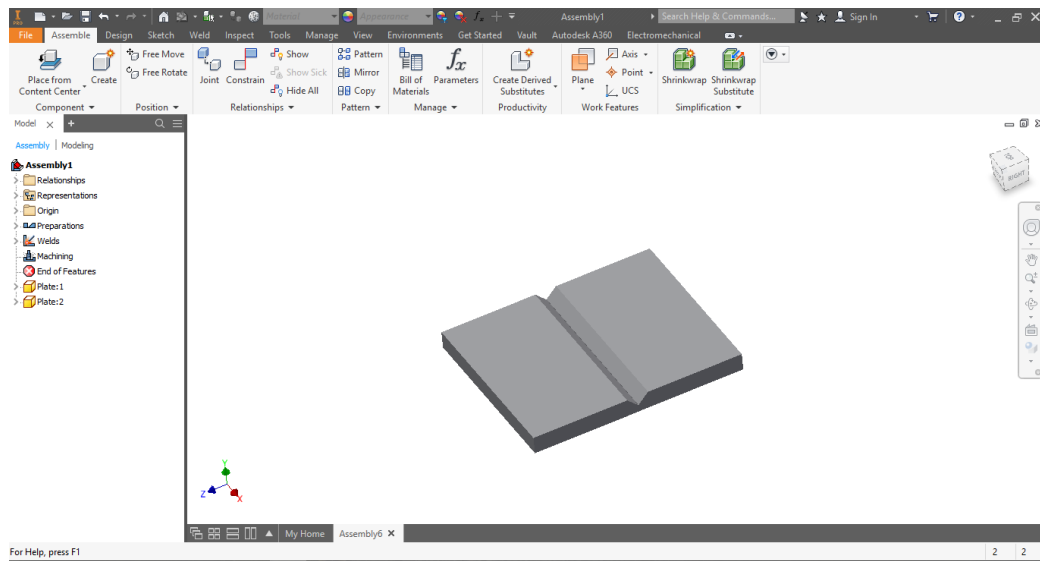

Figure 16-24 Weldment after assembling the two plates
1. Apply multiple instances of the **Mate** constraint to the two instances of the plate and assemble them. The assembly of the two plates is shown in Figure 16-24.